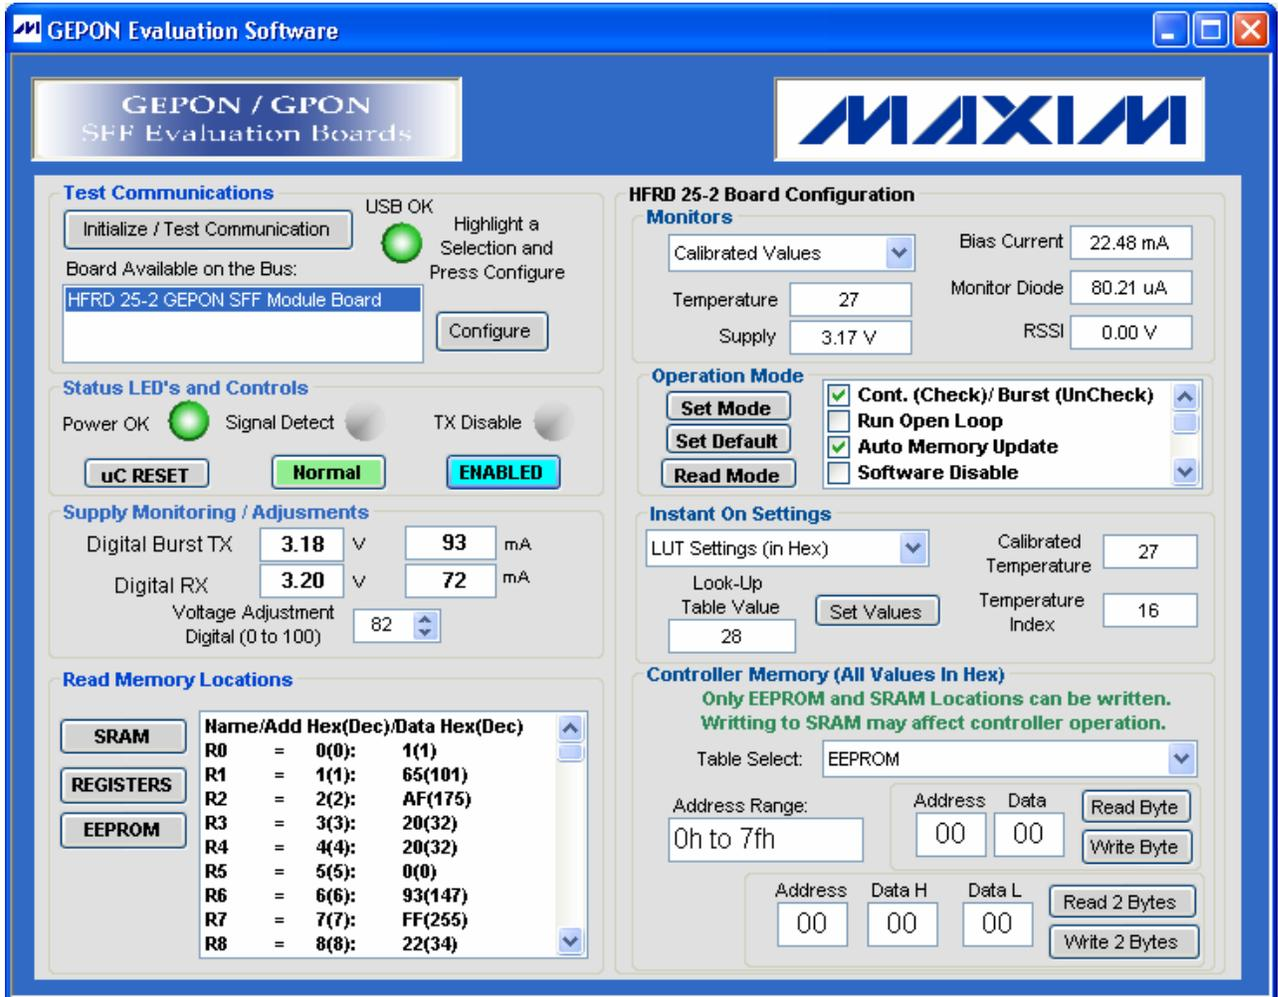

Figure 10. HFRD-25.2 graphical user interface.
5. The modules operation and status can be controlled through the software provided with the HFRD-26.0 Host Board (**Figure 10**). A jumper is also provided for ISP programming of the μ C. The software provides the user with the following features to aide in the evaluation and further development of the reference design: